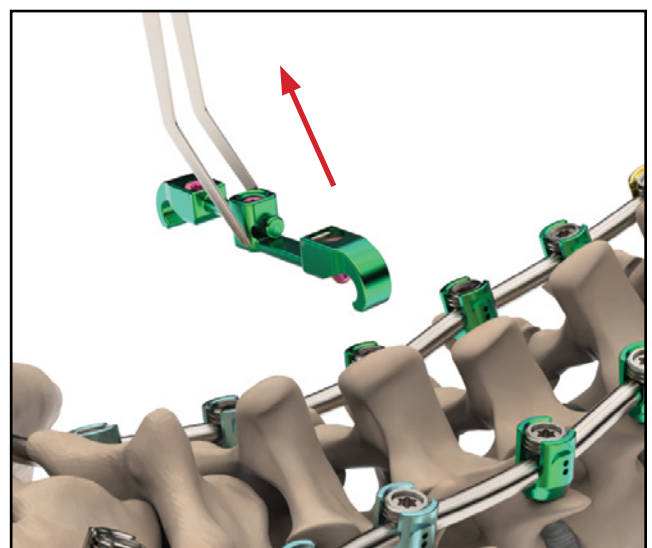

Figure 5.7
6. To remove the Inertia® CrossLynxx Connector, insert the CrossLynxx Driver into the midline screw and rotate counterclockwise. Repeat for the set screws on the rods. Remove the connector by hand or with forceps (Figure 5.7).